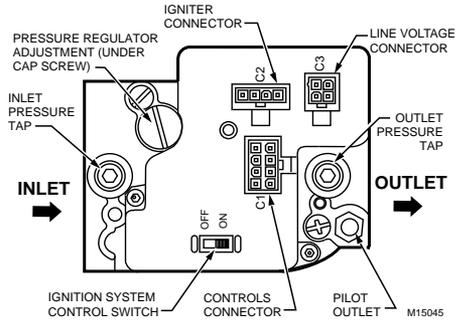

Fig. 4. Top view of ignition system control.
6. Connect the pipe to the ignition system control inlet and outlet. Use a wrench on the square ends of the ignition system control. If a flange is used, place the wrench on the flange rather than on the ignition system control. Refer to Fig. 4 and 5.
2. With main burner operating, check the ignition system control flow rate using the meter clocking method or check pressure using a manometer connected to the outlet pressure tap on the ignition system control. See Fig. 4.